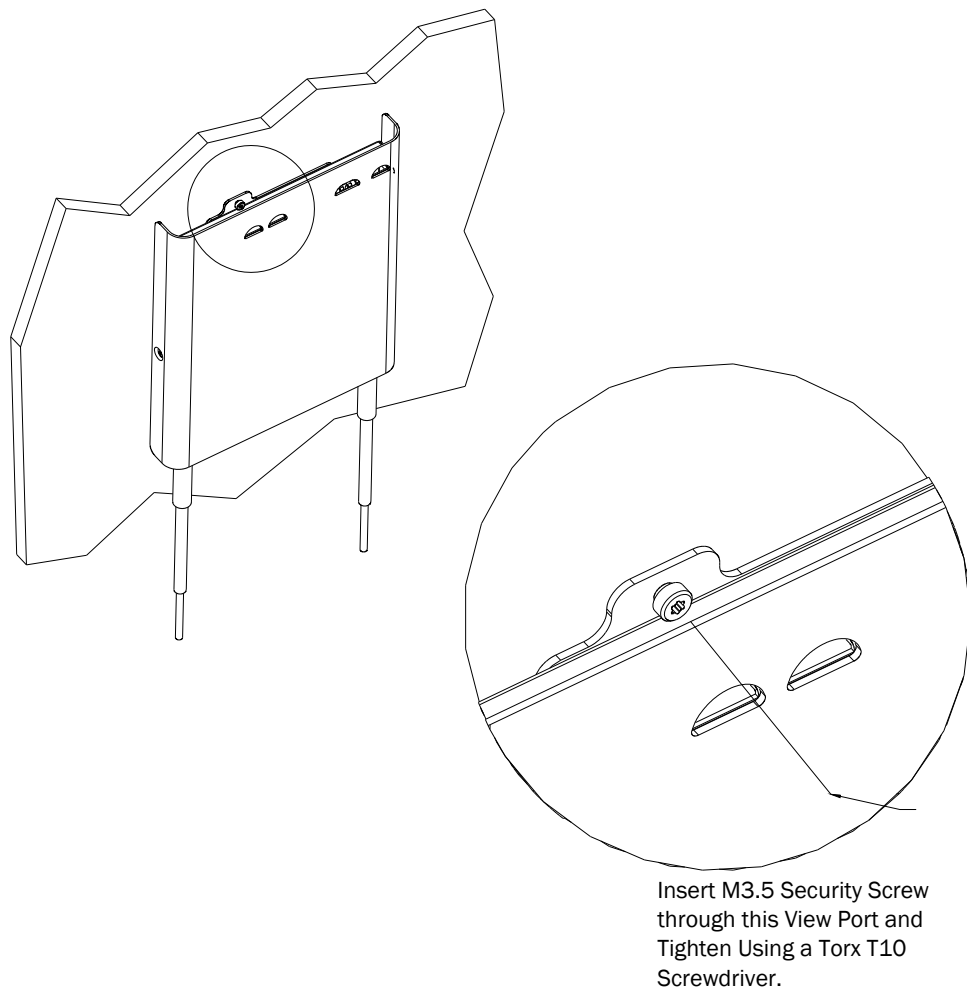

Figure 2-3: Securing the Core AP to its Quick Release Wall Plate
6. Using a Torx T10 screw driver, secure the Core AP to the wall plate by screwing the supplied M3.5 X 0.6 T-10 Torx Head security screw into the PEM nut in the wall plate as shown in Figure 2-3. Torque-tighten the screw to 10-inch lbs. Note that this safety screw is used to prevent the Core AP from sliding out of the wall plate.